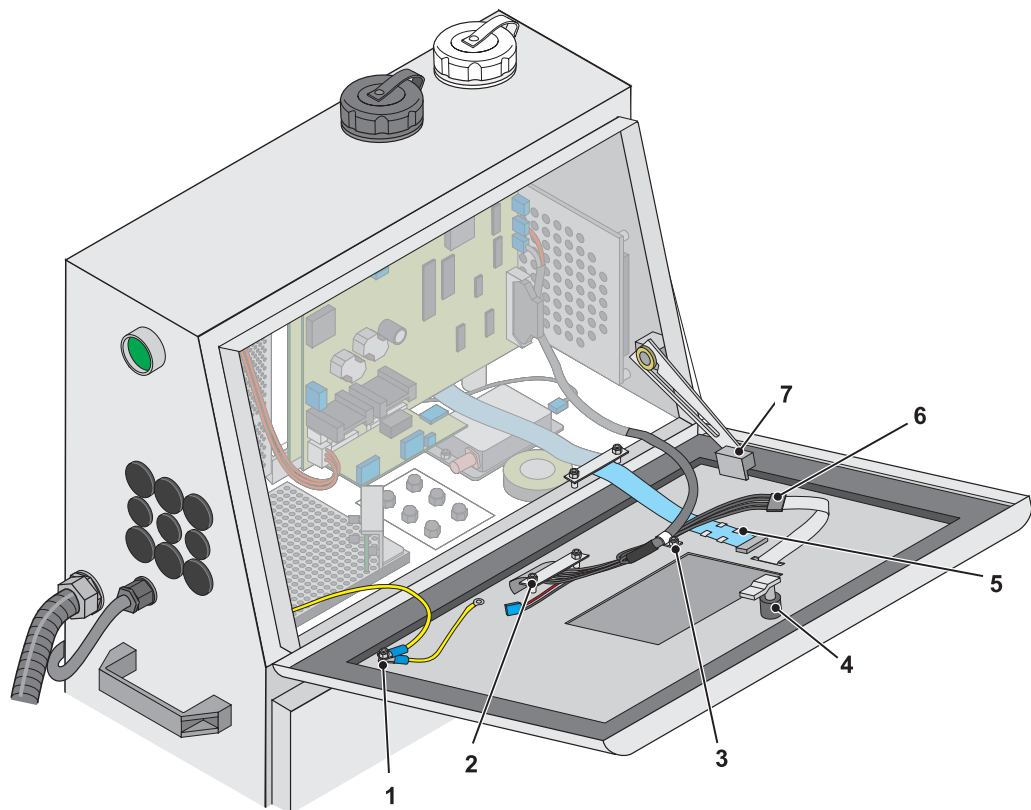

Figure 8-8. Replacing the keypad, part 1
- 2 Remove the nut holding down the ground wires (Item 1 in Figure 8-8).
- 3 Remove the two nuts (2) that attach the ribbon cable connector to the door. Set the nuts and the metal plates aside. Disconnect the ribbon cable.
- 4 Remove the nut (3) that attaches the keypad cable to the compartment door. Set the plastic sleeve aside.
- 5 Remove and retain the door lock (4).
- 6 Bend back the metal fingers (5) to release the ribbon cable.
- 7 Disconnect the remaining ribbon cable (6).
- 8 Remove the screw that fixes the door guide rail to the door (7).